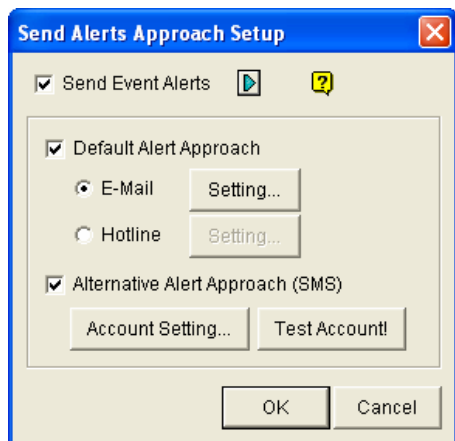

Figure 1-66
1. In the Send Alerts Approach Setup dialog box (Figure 1-66), enable **Default Alert Approach**, select **E-Mail** and click the **Setting** button. This dialog box appears.
1. In the Send Alerts Approach Setup dialog box (Figure 1-66), enable **Default Alert Approach**, select **Hotline** and click the **Setting** button. This dialog box appears.